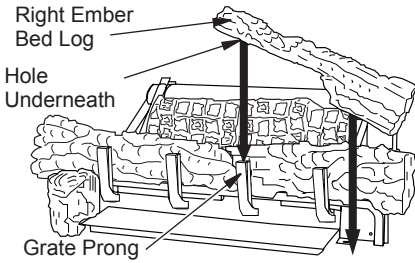

Figure 41 - Installing Right Ember Bed Log
5. The right ember bed log has a hole in the bottom that sets on the grate finger and the other end rest on the fireplace floor, place log as shown in Figure 41, page 23. The back side of this log needs to rest against the front of the base assembly, make sure the flame from the ember pan does not touch the ember bed log.